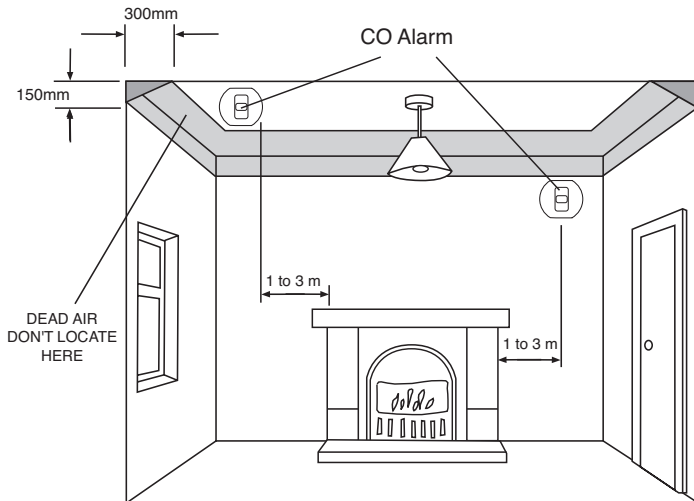

Figure 1
3.3 If locating the CO Alarm in a room with a fuel burning appliance (see figure 1)